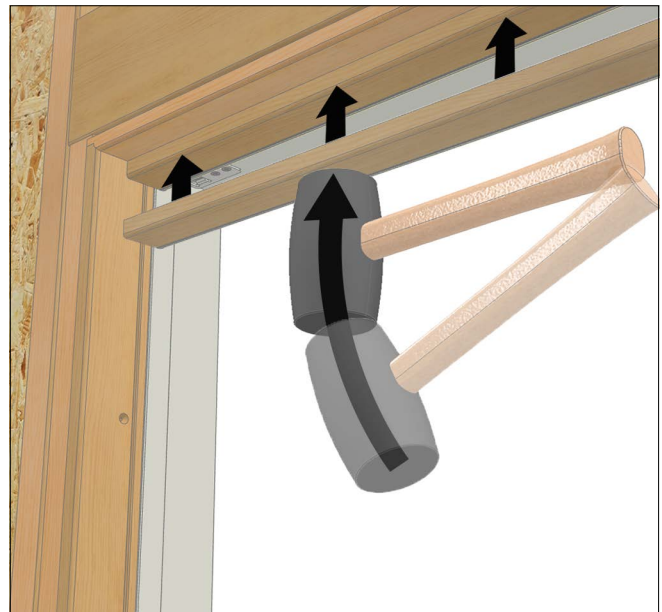

Figure 4
5. **Stationary Units Only-** Once through jamb screws are installed, panel stops can be installed. Weather strip bulb should be facing toward the exterior be careful not to mar the finish or scratch finish on the parts. A non-marring mallet can be used to tap the double barbed stop into place. Ensure the mating liner kerf is free of debris before installing. See Figure 4. **Non-Stationary Units** should proceed to Frame Fastening section before installing stops.